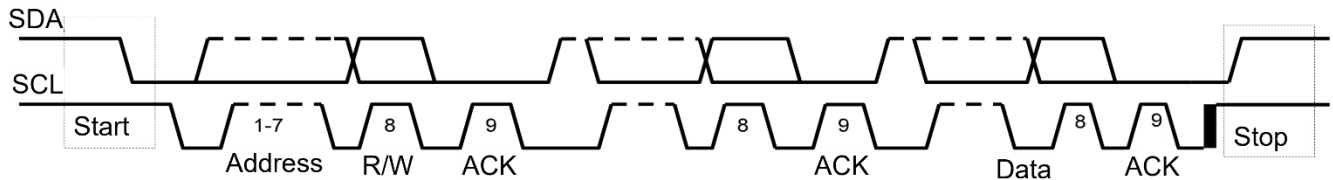

Figure 9: Complete Data Transfer
After the start command, a 7-bit slave address is sent, followed by the read/write (R/W) bit. A 0 represents a write transmission (W), while a 1 indicates a read request (R). Figure 9 shows a complete data transfer.